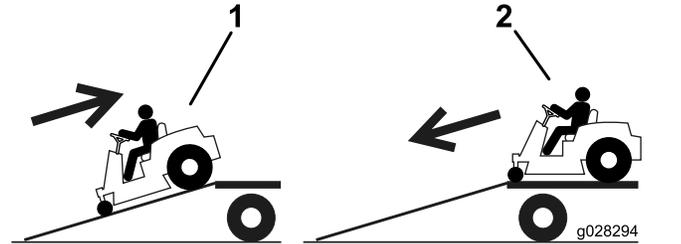

Figure 16
2. Drive the machine forward down the ramp (Figure 16).